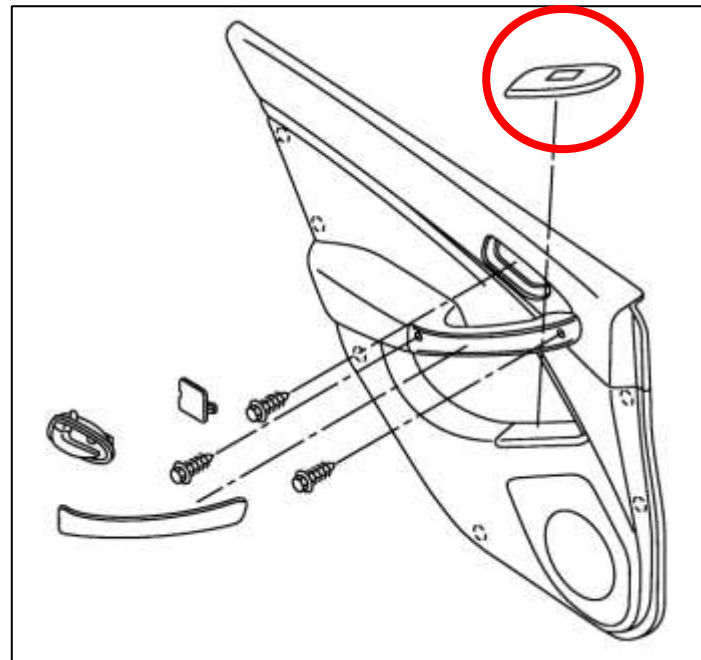

Figure 28
5. Pry up the Door Control Panel using a Trim Removal Tool. *Figure 28*.